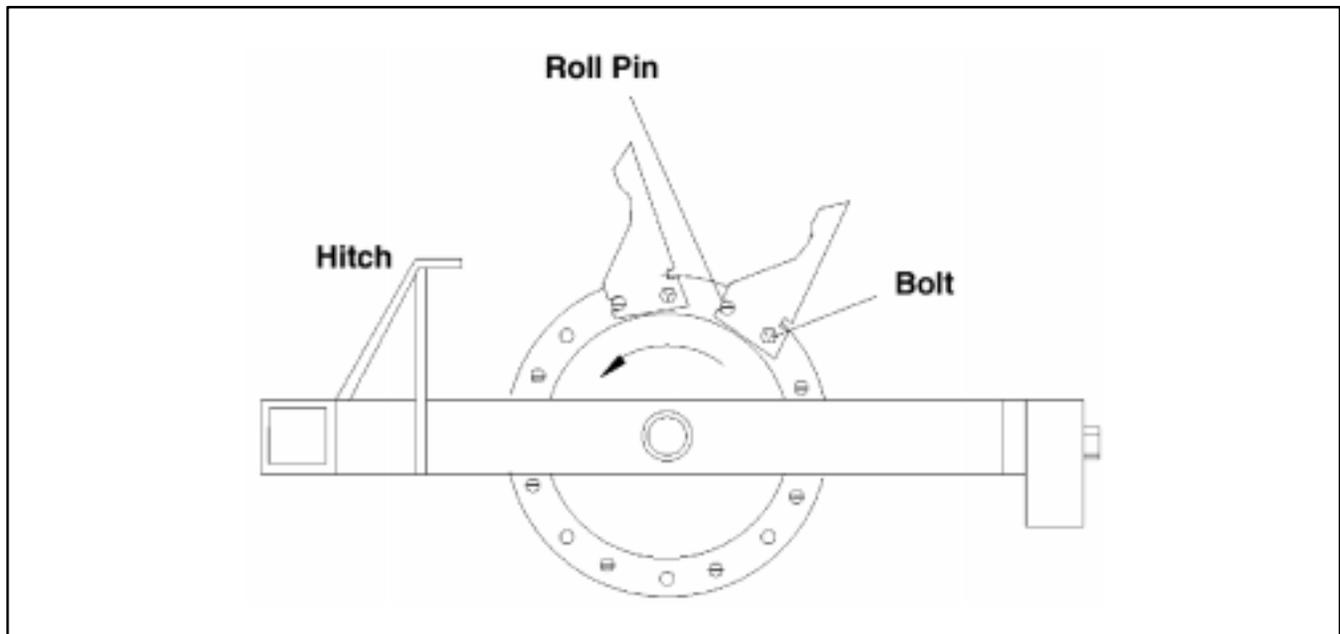

Figure 1
INSTALLING TINES (Fig. 1)
2. Start at the outside casting and install the tines as shown. Install all 8 tines on the casting making sure the roll pin is in the front position (Fig. 1). Use 1/2" x 1-3/4" bolts for the second hole and secure tightly.